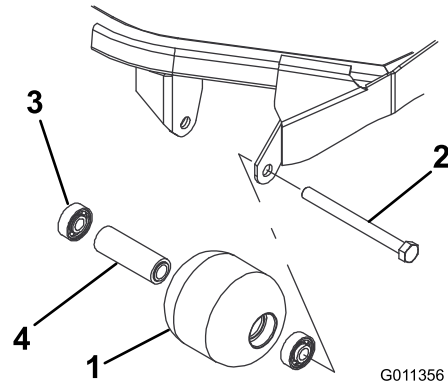

**Figure 73**
3. Inspect the cutting edges of all blades. Sharpen the cutting edges if they are dull or nicked. Sharpen only the top of the cutting edge and maintain the original cutting angle to make sure of sharpness (Figure 73). The blade will remain balanced if the same amount of metal is removed from both cutting edges.